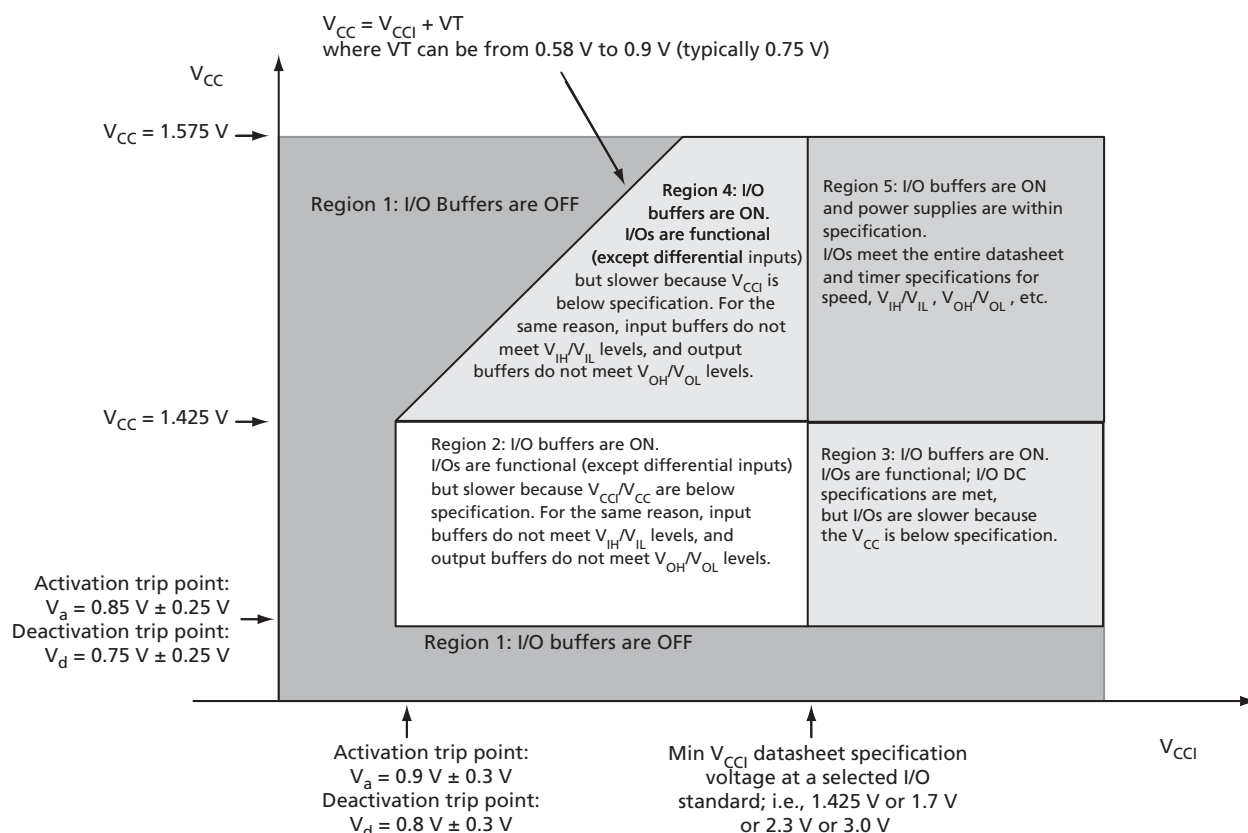

Figure 2-2 • Devices Operating at 1.5 V Core – I/O State as a Function of V_{CCI} and V_{CC} Voltage Levels
Sophisticated power-up management circuitry is designed into every ProASIC[®]3 device. These circuits ensure easy transition from the powered-off state to the powered-up state of the device. The many different supplies can power up in any sequence with minimized current spikes or surges. In addition, the I/O will be in a known state through the power-up sequence. The basic principle is shown in Figure 2-2 on page 2-5 and Figure 2-3 on page 2-6.
1. V_{CC} and V_{CCI} are above the minimum specified trip points (Figure 2-2 on page 2-5 and Figure 2-3 on page 2-6).
Actel recommends using monotonic power supplies or voltage regulators to ensure proper power-up behavior. Power ramp-up should be monotonic, at least until V_{CC} and V_{CCPLX} exceed brownout activation levels. The V_{CC} activation level is specified as 1.1 V worst-case (see Figure 2-2 and Figure 2-3 on page 2-6 for more details).